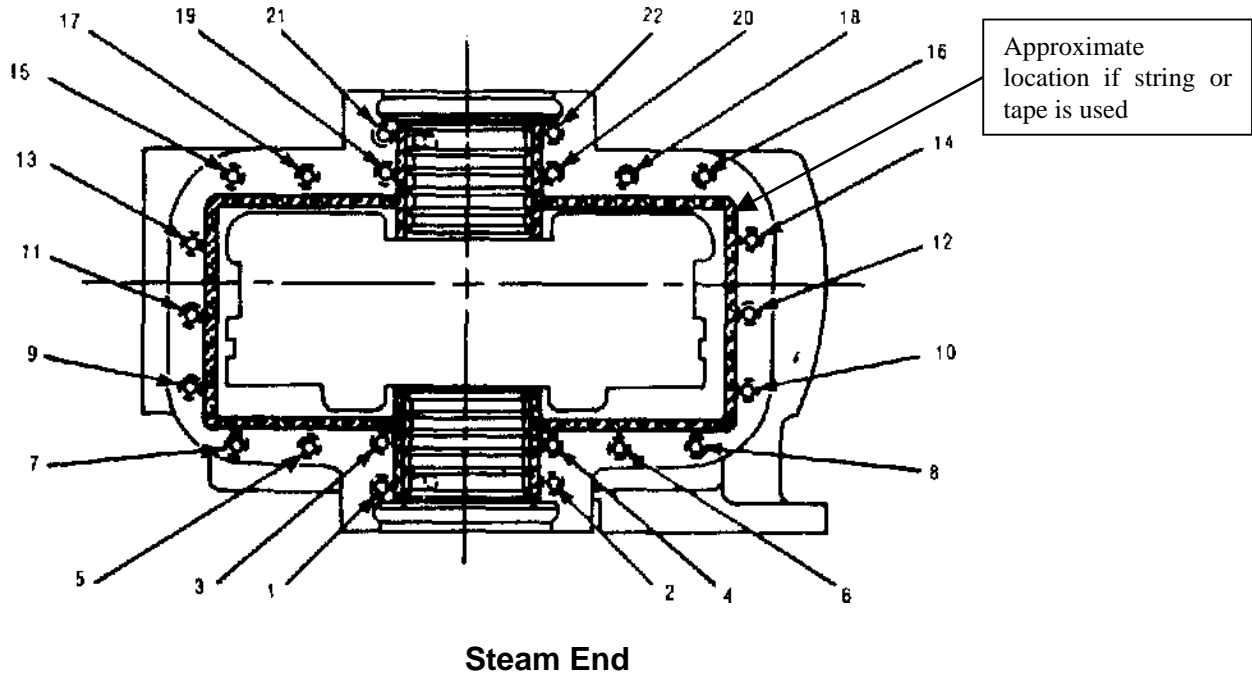

Figure L-2. Flange Bolt Torque Sequence
- f. Install and tighten the horizontal flange bolts in accordance with Figure L-2, *Flange Bolt Torque Sequence* and Table L-1, *Applied Bolt Torques for Case Flange Bolts*. Tighten all nuts uniformly to approximately 10% of the specified torque; then using the illustration as a guide, tighten to full torque. Check and re-tighten after turbine is at normal operating temperature, using the sequence shown.